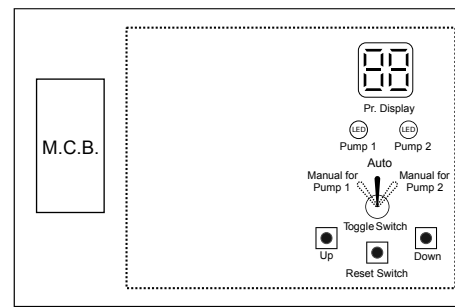

Fig.1 Control Panel
4. Control Panel's (fig.1) functions are described below:
- ① Set Point - The Set point of the pressure is set by up and down key, on pressing any key display starts blinking and shows the set-point. It again shows the actual pressure when it is left idle for 15secs.
- ② Auto Mode - Pump switches OFF when the pressure exceeds the set-point and is switched ON, as the pressure goes below (one bar) the set-point. If the pressure is not achieved in 15mins, the pump will switch OFF and after 1min other pump will start to achieve the required pressure.
- ③ Manual Mode - Operation can be switched from Auto mode to Manual mode for Pump 1 / Pump 2 by the toggle switch. In manual mode, the pump operates continuously for 30mins, then stops for 10mins before restarting.
- ④ Alarm - A NO contact of relay is provided for the alarm which closes when an alarm is raised. In case of alarm, press reset key to clear alarm or switch OFF & then switch ON the mains.